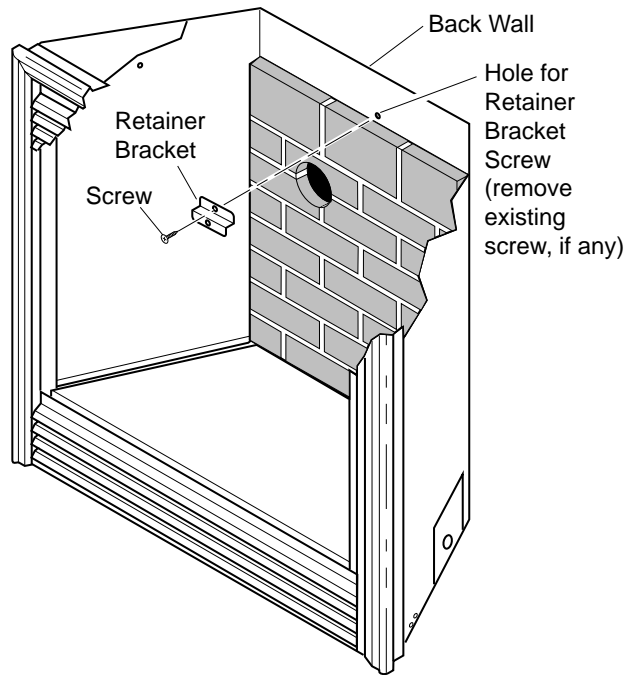

Figure 4 - Securing Top of Firebrick Panel to Back Wall of Fireplace
- Secure the top of firebrick panel to back wall of fireplace with one retainer bracket and one screw (see Figure 4).